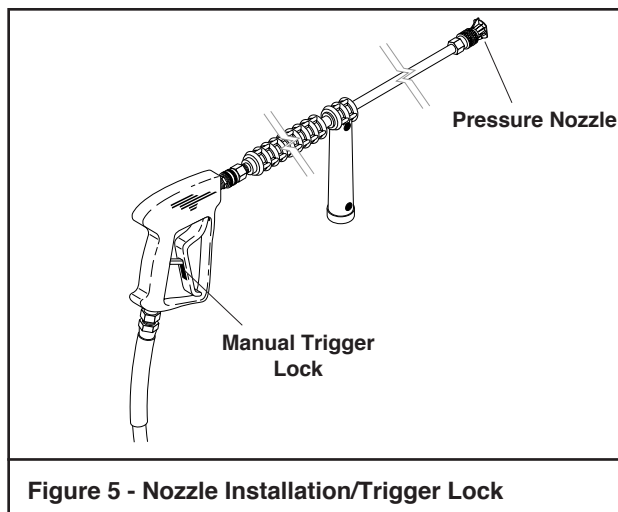

Figure 5 - Nozzle Installation/Trigger Lock
1. Install the proper pressure nozzle for your cleaning needs on the end of the wand. Refer to Figure 5.
IMPORTANT: The trigger gun provided with this pressure washer is equipped with a manual trigger lock to prevent accidental operation of the trigger gun; refer to Figure 5. The trigger lock should be used whenever the trigger gun is not in use.